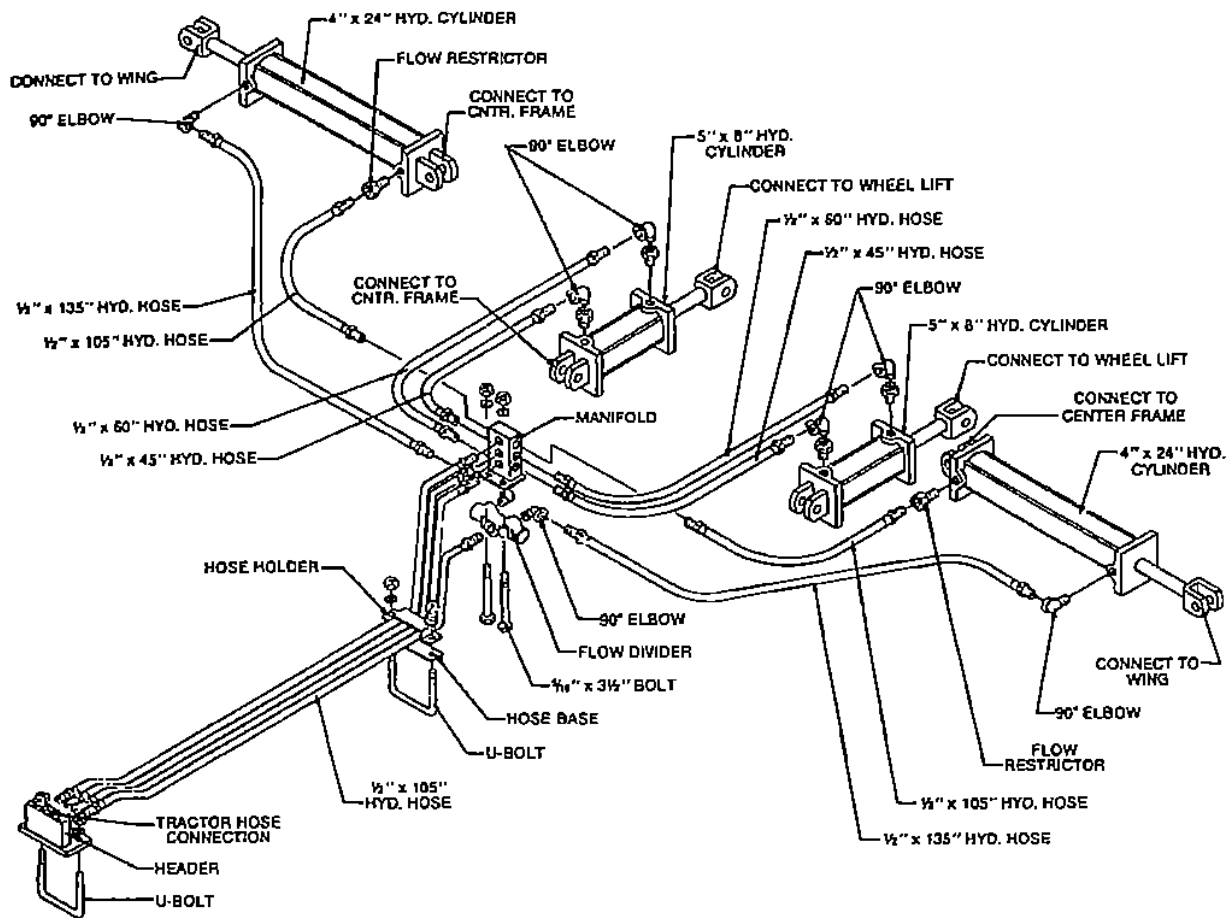

FIG. 15 — HYDRAULIC CYLINDER and HOSE ASSEMBLY
2. Connect the base of the two 4" x 24" hydraulic cylinders to cylinder bracket on main frame with the hose ports facing to the front of unit. Insert six 90° elbows into hose ports of wheel lift cylinders and wing lift cylinders, using four elbows in wheel lift cylinders, and two elbows in rod end of wing cylinders (see Fig. 15). Insert two flow restrictors into butt end of wing cylinders.
immediately after connection. This is very important on manifold and header because the holes are very close together. Screw two 1/2" x 45" hoses into butt end of wheel lift cylinders. Remember to tighten. Screw the other end in the bottom holes on side of manifold (see Fig. 15). Next, screw two 1/2" x 60" hydraulic hoses into the rod end of wheel lift cylinders, and into the middle hole of manifold. Tighten both ends of hose. Then connect two 1/2" x 105" hoses to flow restrictor located in butt end of 4" x 24" wing lift cylinders. Screw the opposite end or swivel end to top hole of manifold. Next connect two 1/2" x 135" hoses to 90° elbow in rod end of 4" x 24" hydraulic cylinder, screw the opposite end into 90° elbow located in back side of flow divider. To complete hose assembly, connect remaining four 1/2" x 105" hoses to front of manifold and flow divider. Connect other end to header on front of tongue. Clamp hoses onto rear of tongue to hold hoses in place. Also, clamp all hoses to center frame with hose clamps provided (see Fig. 15).